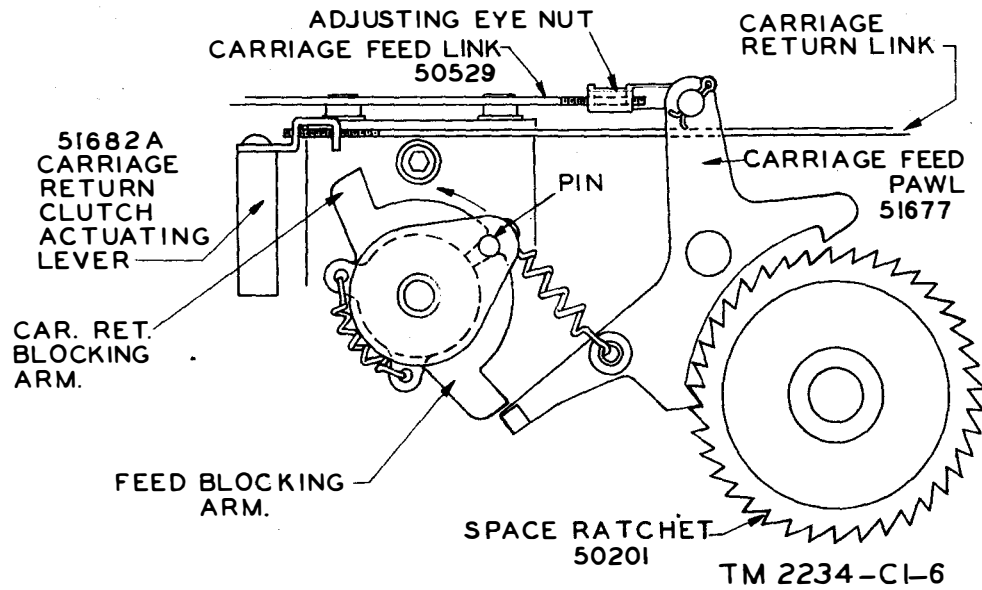

Figure 78.1. Carriage-feed blocking mechanism.
e. Teletypewriter TT-4A/TG is provided with a blocking means for preventing the engagement of the carriage feed clutch if the carriage is in its extreme right-hand position. Figure 78.1 shows this means. As the carriage moves into the 72*d* space, the lower edge of the carriage-feed pawl moves between two of the teeth on the space ratchet and the carriage-feed blocking arm engages the feed pawl so that it cannot release the ratchet to engage the feed clutch. This prevents undue strain on the carriage-feed shaft and gears should another key be struck before the carriage-return key is operated. If another key is so operated, the printed characters will be printed on top of each other. If 76-characters-per-line operation is desired, the pin may be turned 90° to increase the separation of the blocking arms.
Page 104. Fig. 78. Insert figure 78.1 after figure 78.